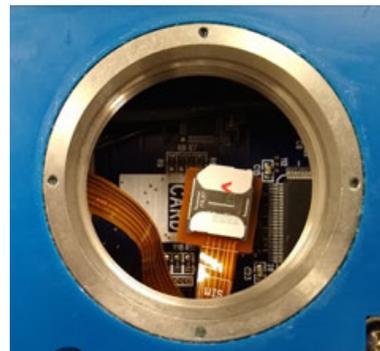

Figure 4-5 SIM card placed
4. Press the SIM extender back down on the hook and loop fastener to keep it in place (Figure 4-5).